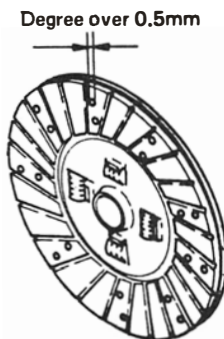

Figure 3
2. Inspect and measure the thickness of the clutch disc facing and the depth of the rivets in the clutch facing, see Figure 3. If these measurements do not meet the specified limit, page 69, replace the clutch disc.